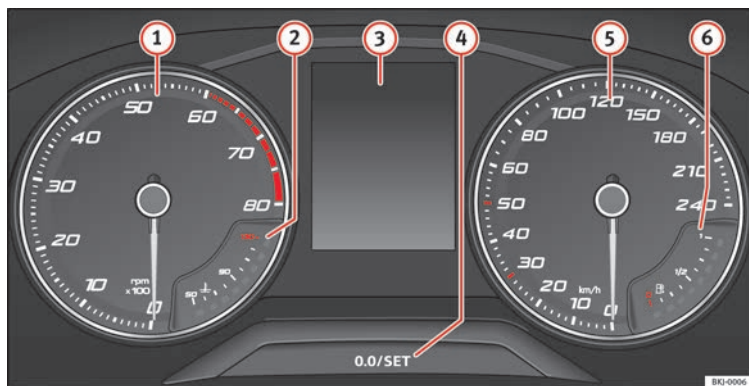

Fig. 124 Instrument panel, on dash panel.
A variety of information can be viewed on the instrument panel display » **Fig. 124** ③ depending on the vehicle equipment:
- Briefly press the button » **Fig. 124** ④ to re-set the trip recorder to 0.
- Keep the button ④ pressed for about 3 seconds and the previous value will be displayed.
- To set the time, keep the button » **Fig. 124** ④ pressed for more than 3 seconds to select the hour or minute display.
- To continue setting the time, press button ④. Hold button down to scroll through the numbers quickly.
- Press the button ④ again in order to finish setting the time.
» **Fig. 124** only works when the ignition is switched on. In order to avoid engine damage, please read the following notes for the different temperature ranges.